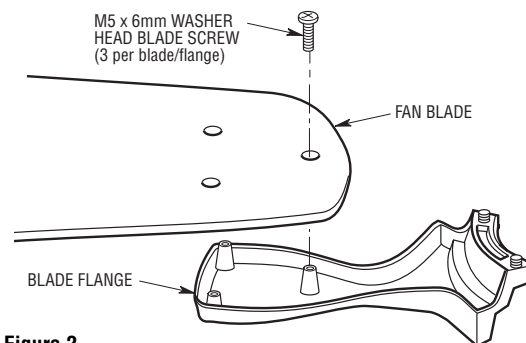

Figure 2
- 2. Mount blade flanges to fan blades using three M5 x 6mm washer head blade screws (Figure 2).